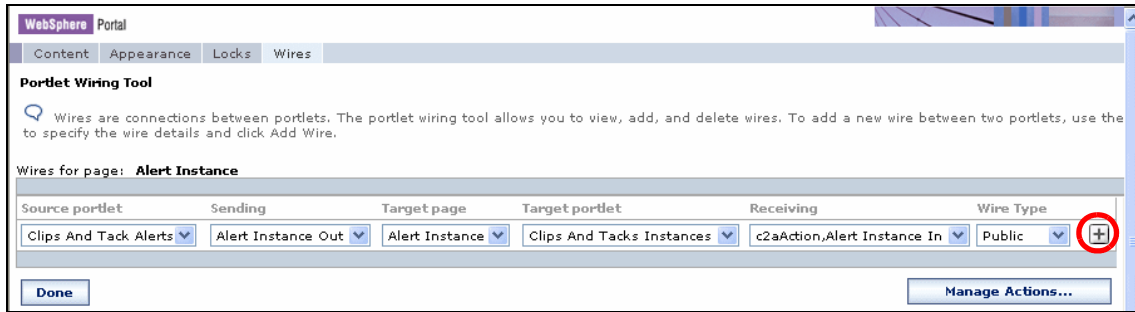

Figure 17-17 Wiring two portlets together
- ▶ When editing the page layout, select the *Wires* tab (Figure 17-17):